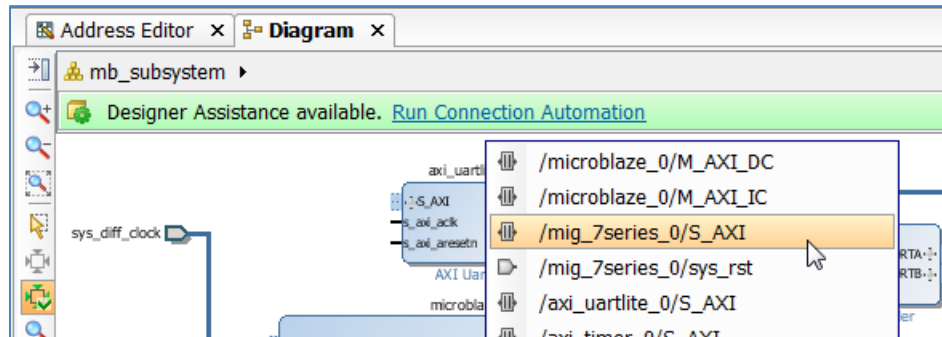

Figure 110: Run Connection Automation on /mig_7series_0/S_AXI
1. Click **Run Connection Automation** and select **/mig_7series_0/S_AXI** (FIGURE 110).